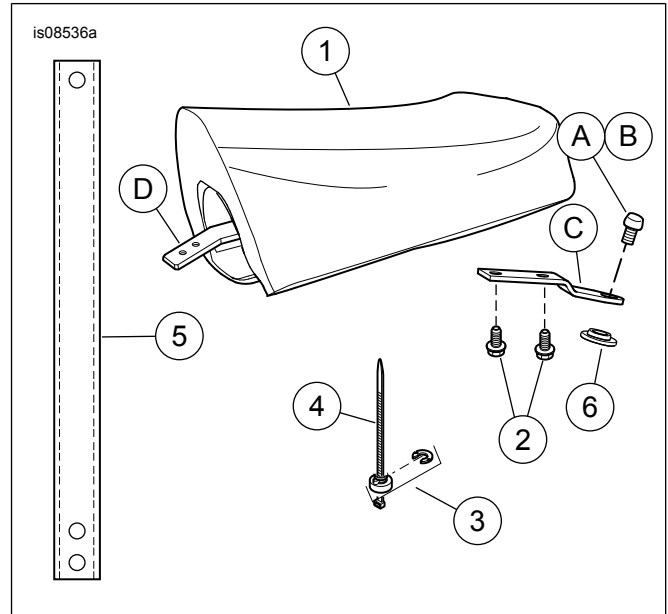

Figure 5. Service Parts: XL Pillion
See Figure 5 and Table 1.
8. See Figure 5. Attach the seat bracket (B) removed in Step 1 to the passenger pillion using the flange screws (2) included in the kit. Tighten to 4.5–6.8 N·m (40–60 in-lbs).